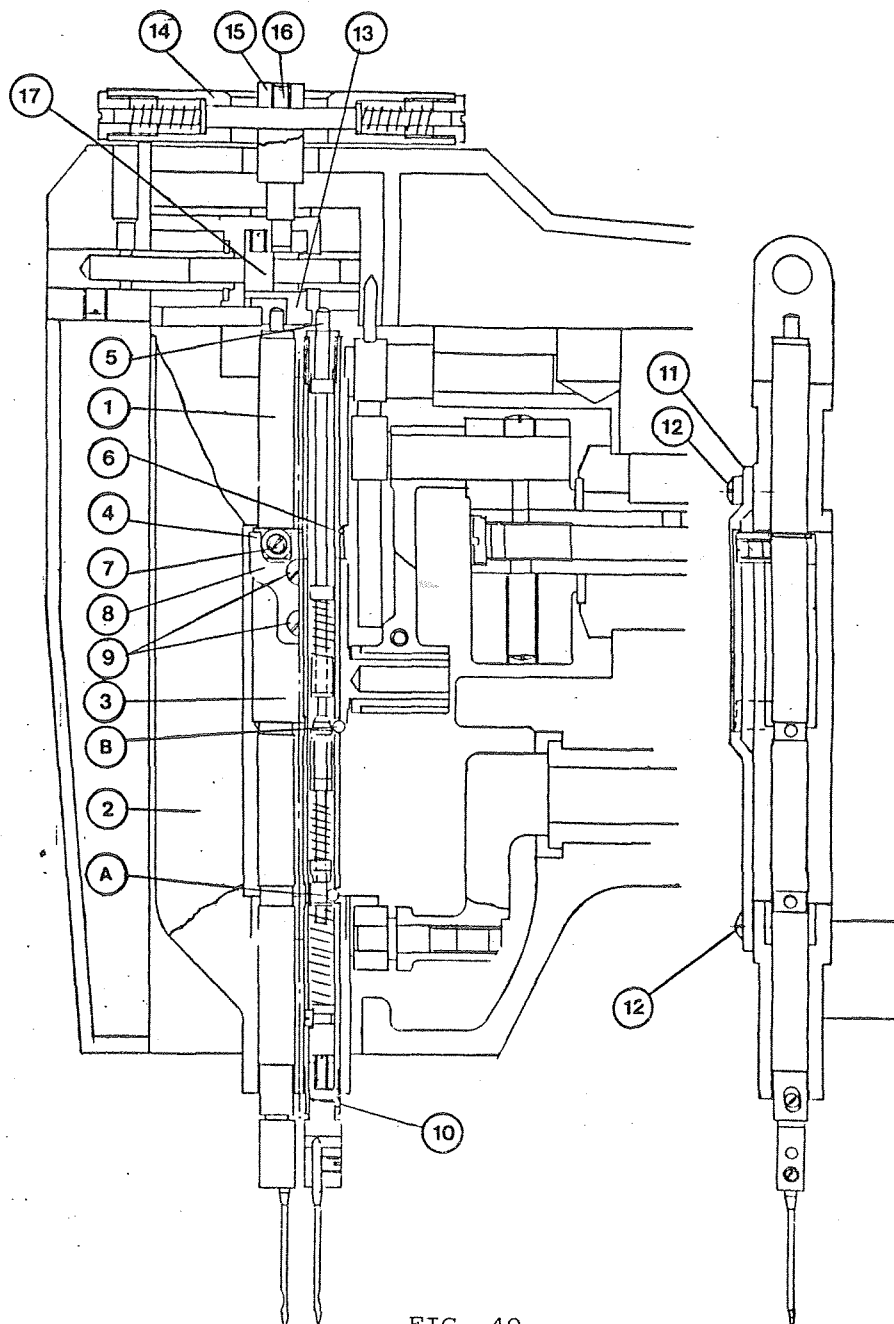

FIG. 49
ASSEMBLY OF NEEDLE BARS IN NEEDLE BAR ROCK FRAME (Fig. 49)
ADJUSTMENT OF THE NEEDLE BAR SELECTOR (Fig. 49)
- a) The needle bar selector block (13) Fig. 49 is locked to sliding shaft (17). The latter is coaxial with the needle bar rock frame. Place this block so that the gap at its underside is to the left and that when the needle bars are in their highest position, rod ends (5) are completely clear of the selector block. When in this position tighten set screw in selector block.
- b) Manually move needle bar change-over frame (14) fig. 49 to the left and to the right to determine that there is clearance with the opposite rod ends (5) - the right end when in left position and vice-versa. When checking the movement of needle bar change-over frame (14) make sure that connecting stud (15) assumes a central position. If not, loosen its set screw (16) move the connecting stud into a central position and tighten set screw.